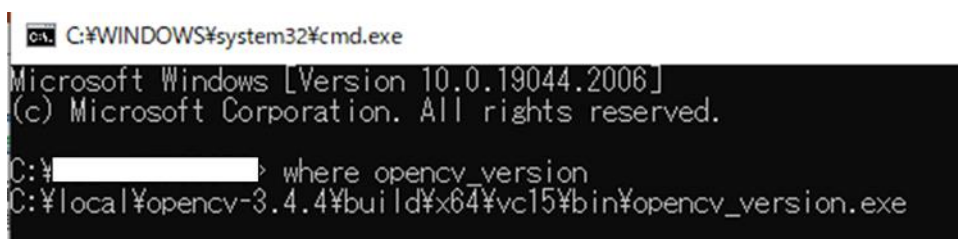

Fig. 5.11 Command prompt confirmation
- (m) "Type where Opencv\_version" and press Enter. If the error is not displayed, the path is passed. (Figure 5.11)